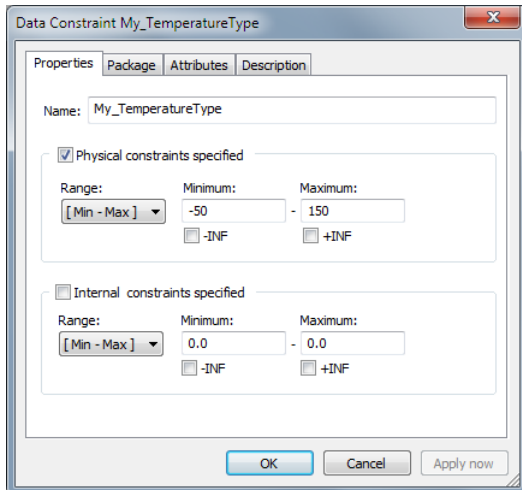

Figure 4-6 Physical constraint
- > A physical constraint is created: "My_TemperatureType_Constraint" (see Figure 4-6):